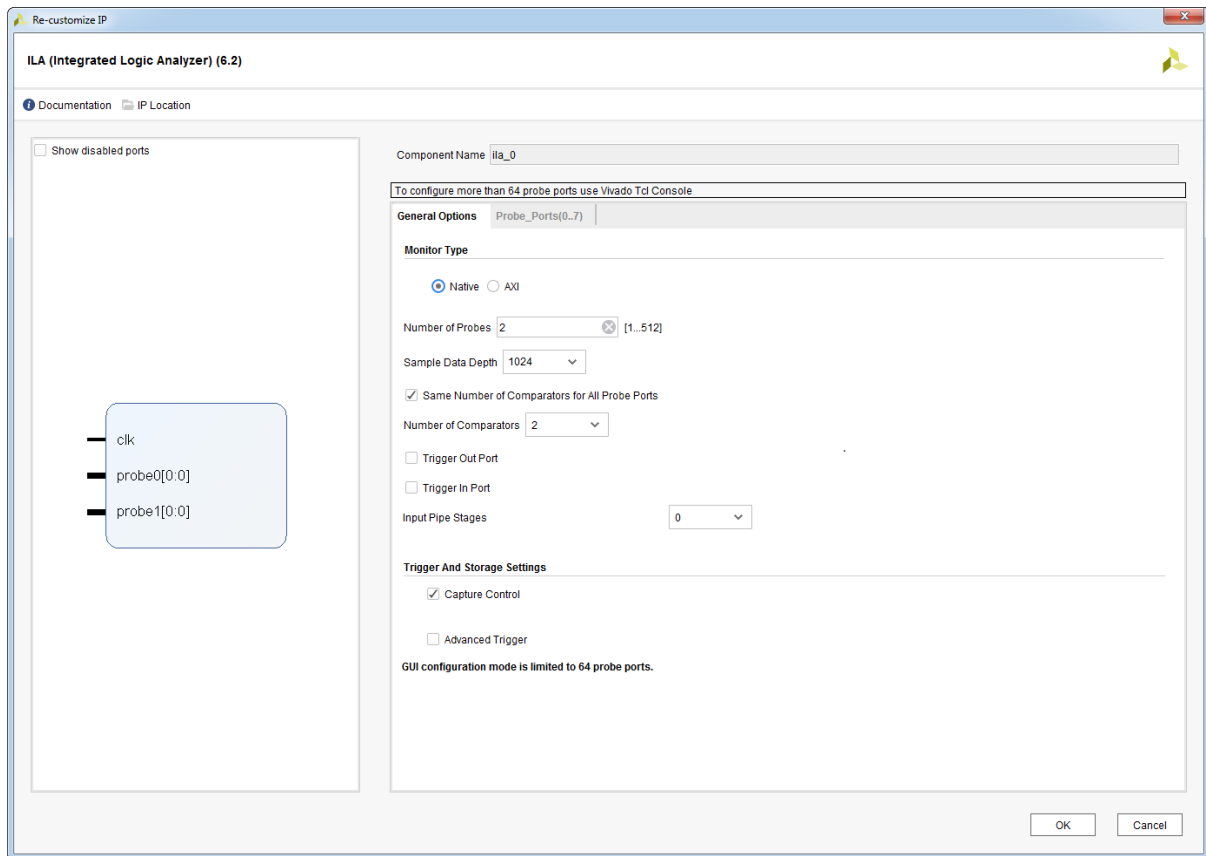

Figure 3.8: ILA (Integrated Logic Analyzer (6.2)) Re-customize IP dialog box - General Options
- enable **Capture Control** option in the **Trigger And Storage Settings** section, as it is shown on the Figure 3.8.